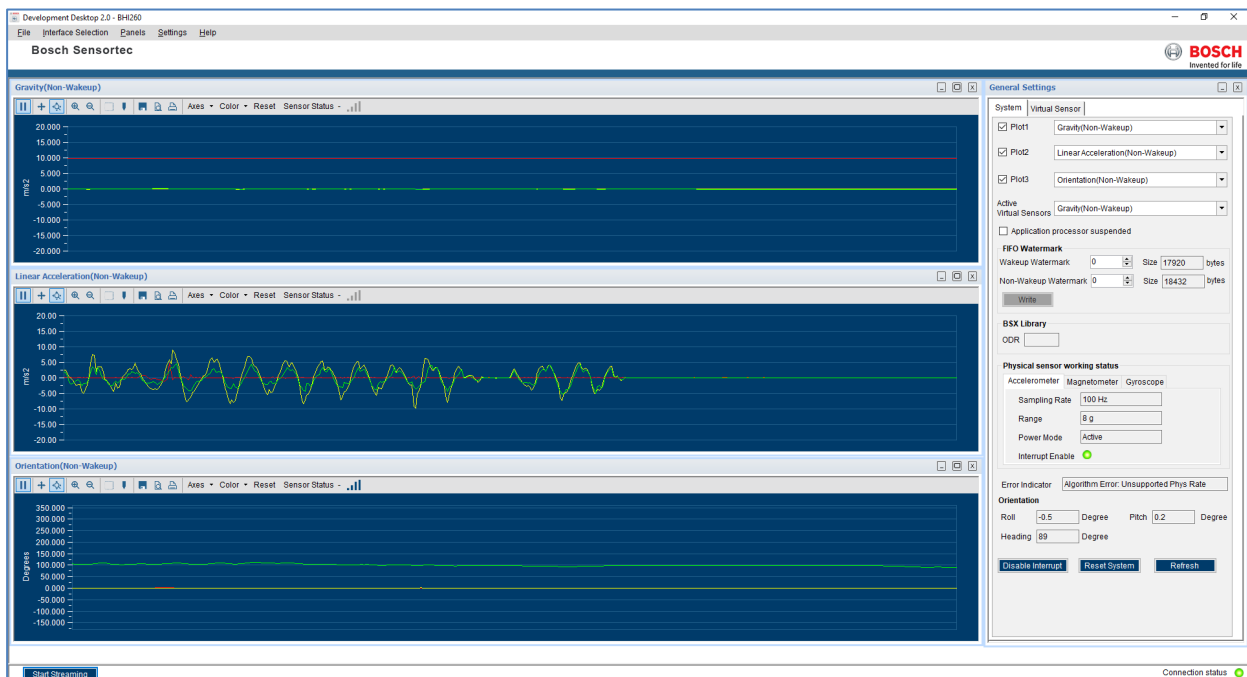

Figure 3 BHI260AB virtual sensors’ waveforms
- Now click “Start Streaming” button on the bottom left to see the waveforms in real-time by rotating the APP2.0 base board with BHI260AB shuttle board plugged in. When moving on a flat surface back and forth, linear acceleration is changing in Plot2, while gravity vector in Plot1 remains the same as shown in Figure 3.